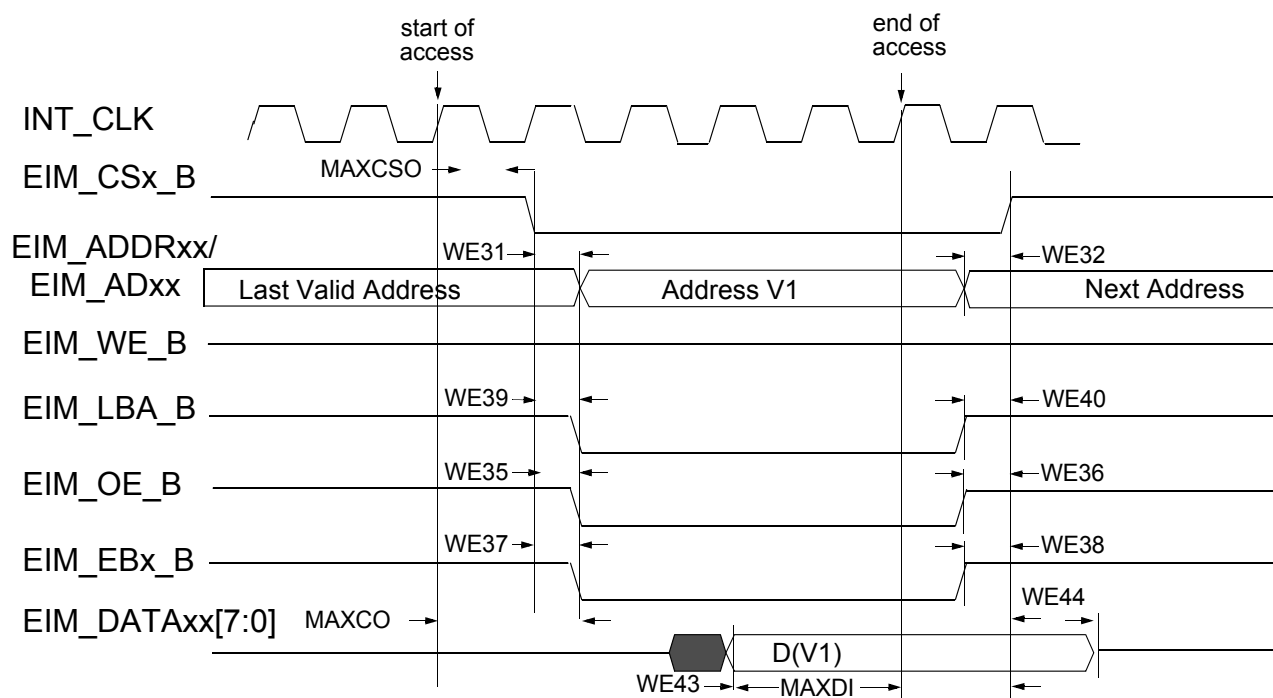
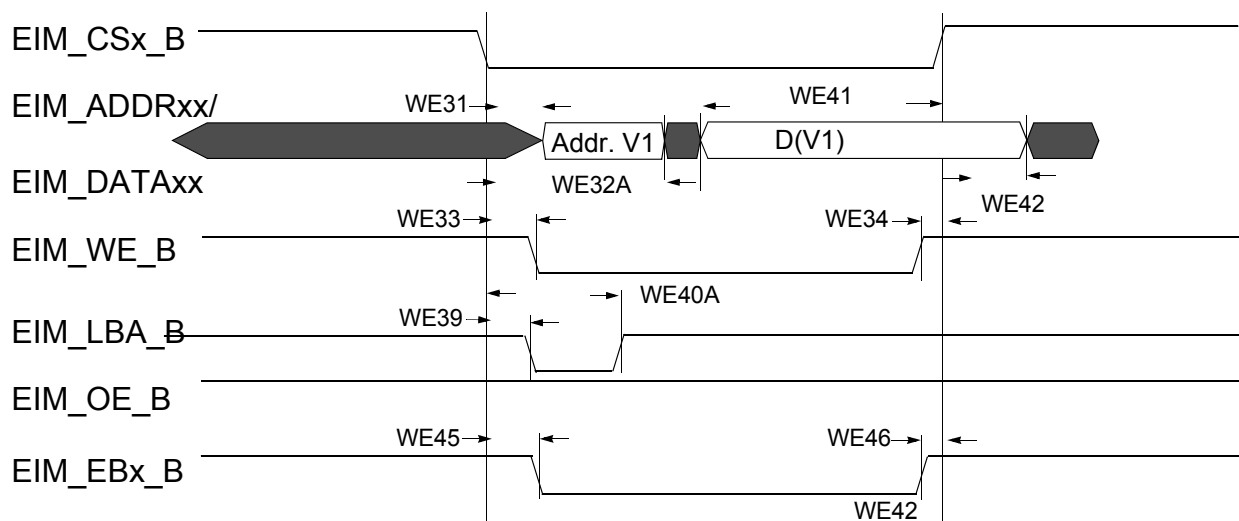
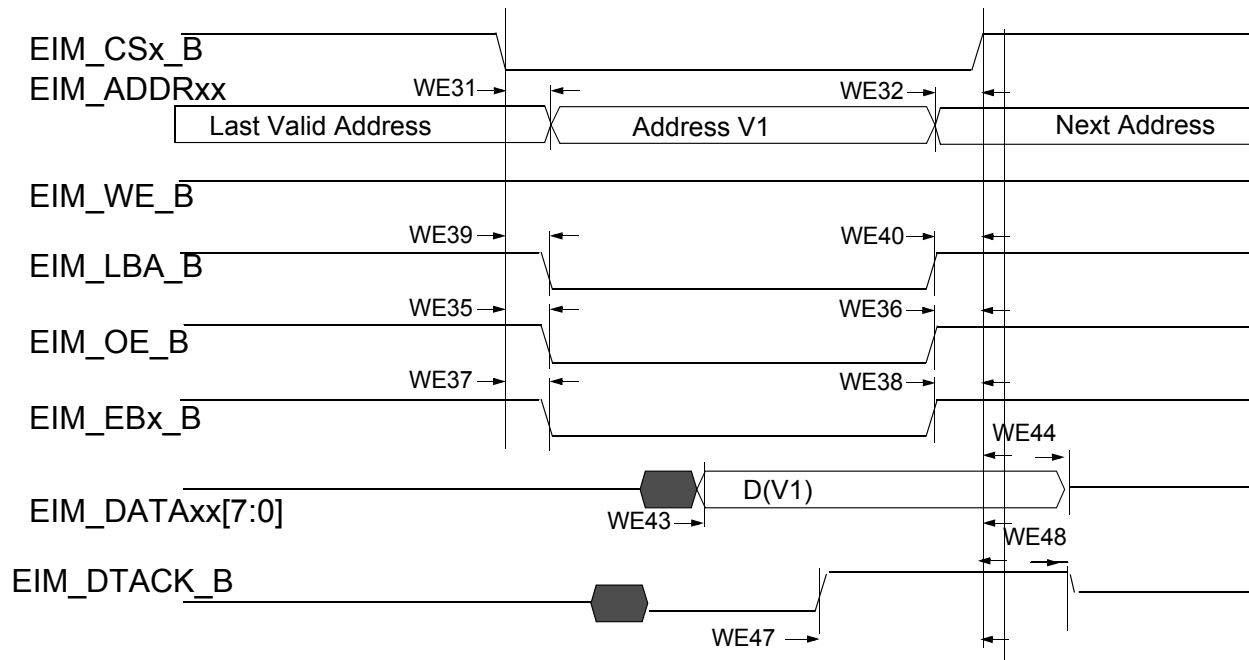

Figure 17. Asynchronous Memory Read Access (RWSC = 5)
Figure 20. Asynchronous A/D Muxed Write Access
Figure 21. DTACK Mode Read Access (DAP=0)
Figure 17 through Figure 21, and Table 38 help you determine timing parameters relative to the chip select (CS) state for asynchronous and DTACK EIM accesses with corresponding EIM bit fields and the timing parameters mentioned above.
Asynchronous read & write access length in cycles may vary from what is shown in Figure 17 through Figure 20 as RWSC, OEN and CSN is configured differently. See the *i.MX 6Solo/6DualLite Reference Manual (IMX6SDLRM)* for the EIM programming model.